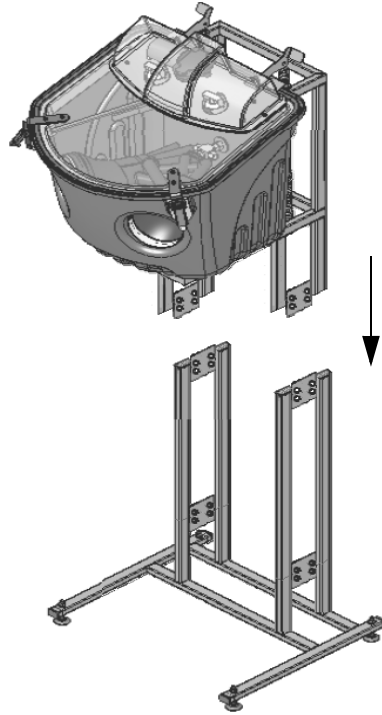

Figure 4-4: Attaching the WaterJet cabinet to the stand extensions
6. Place the WaterJet cabinet on the stand extensions (see figure 4-4).